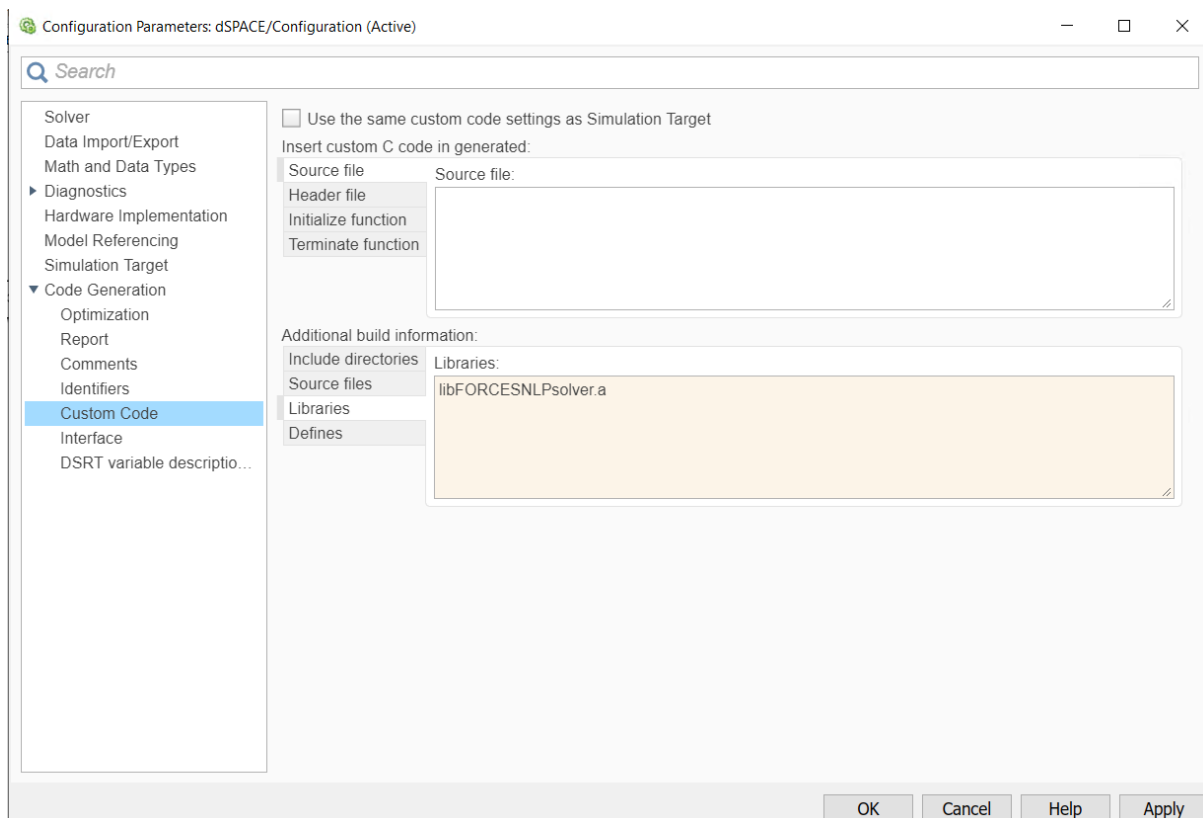

Figure 13.41: Add the libraries used for the code generation.
12) In the “Code Generation/Custom Code” tab, add the library file (see Figure 13.41):